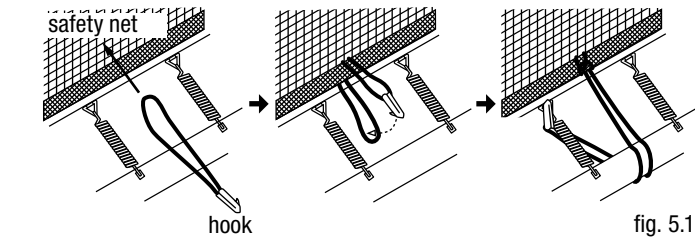

fig. 5.1
Hook one end of a rubber band with 1 hook (G) between two lower foam-covered bars (B) onto the net's edge, then pull the other end around the main frame and connect securely to the mat frame and net bar (Fig. 5.1 + 5.2).
NOTE: For better visibility, the frame cushion has been left out of the illustration in Fig. 5.1.